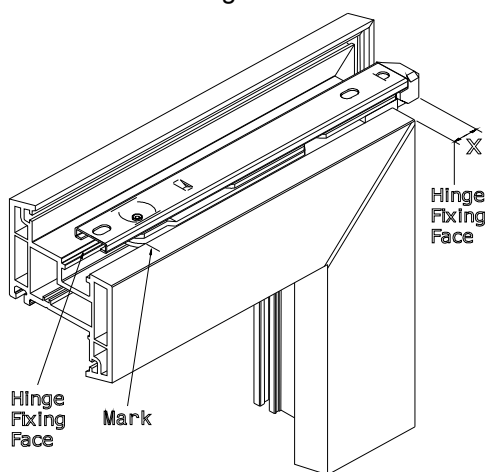

Fig. 6
- 2.1.15.2 **EITHER:** Determine the correct longitudinal hinge position 'x': As shown in Fig. 6